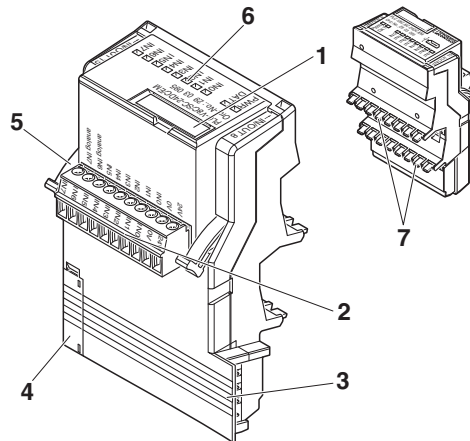

Figure 3-3 Connection and operating elements of extension logic modules
4. Proceed in the same way to attach a second extension module. To do this, remove the covering hood (7) on the first extension module (see Figure 3-3 on page 22).